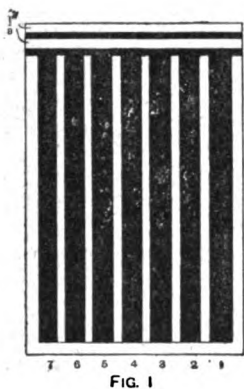

FIG. 1
**Changing Box for Photographic Plates.**—Undoubtedly the best form of changing box is the bag changer. But a changing box that has seemed to give great satisfaction is described below; though it must be admitted, however, that it appears to be rather liable to cause fog. The two sides of the box are grooved in the manner shown (see Fig. 1), seven grooves  $\frac{1}{4}$  in. wide running vertically, and two grooves  $\frac{1}{4}$  in. wide running horizontally at the top. The back is like Fig. 2, and the front is similar except that the front will be the width of one groove higher than the back. An ordinary joint as shown in Fig. 3 will suffice for connecting up the framework, but must fit well to be light-tight. The bottom of the box is a plain board. Two sliding lids to run in grooves A and B (of the form shown in Fig. 4, that is, with rebate R) are next made and inserted in the grooves; these sliding lids should run easily. The lid A runs from the front into the top groove, and the lid B from the back into the lower groove; a rail must be fixed above B at the back in order to receive the tongue of A. These lids sliding in reverse directions can form an opening above either of the vertical grooves that carry plates. A piece will be required the full size of the top of the box covered with black velvet and fitted at the sides with thin brass plates S (Fig. 5); these plates grip the box tightly, and projections fitted at X and Y serve to grip the slide. On the side of each strip S is an arrow indicating the position for the opening by causing this to come in line with marks made on the sides of the box corresponding